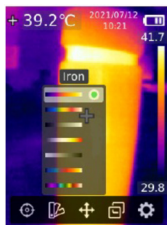

Fig. 2
2. Use the  and  buttons to scroll through the list of color palettes (Fig. 2).